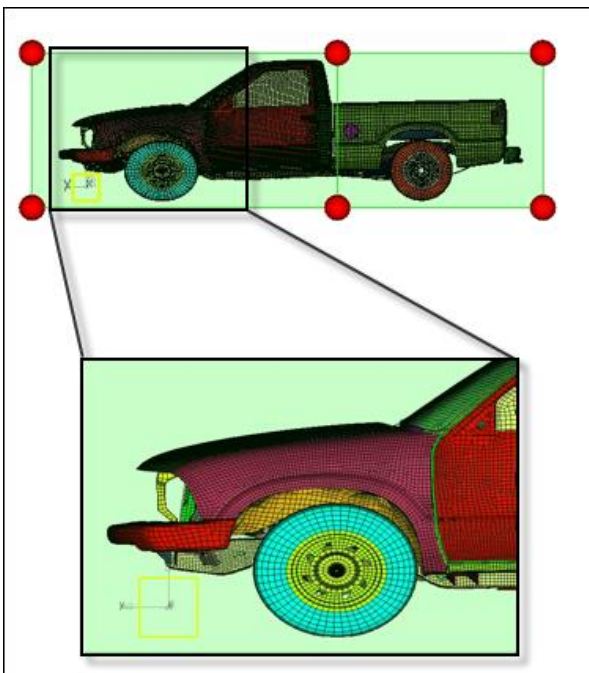

Figure 3: undesired morphing of the front wheel
5. Select two **handles** as shown in figure 3.